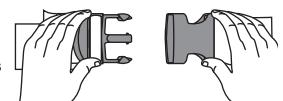

Fig. 2
- Put the shoulder strap on either using the clip or over head and onto shoulder. (Fig. 2).